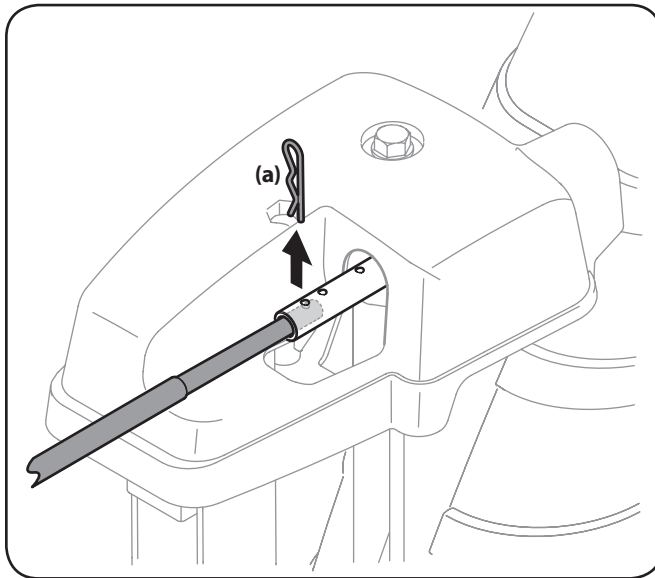

Figure 6-6
1. Remove the cotter pin (a) from either of the holes closest to the chute assembly on the chute rotation assembly. See Figure 6-6.
2. Pull out the chute control rod until the hole in it lines up with the hole furthest from the chute assembly on the chute rotation assembly. See Figure 6-6.